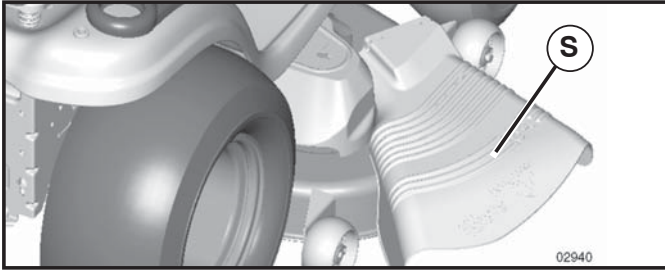

Fig. 10
**CAUTION:** Do not operate the mower without either the entire grass catcher, on mowers so equipped, or the deflector shield (S) in place. (See FIG. 10)